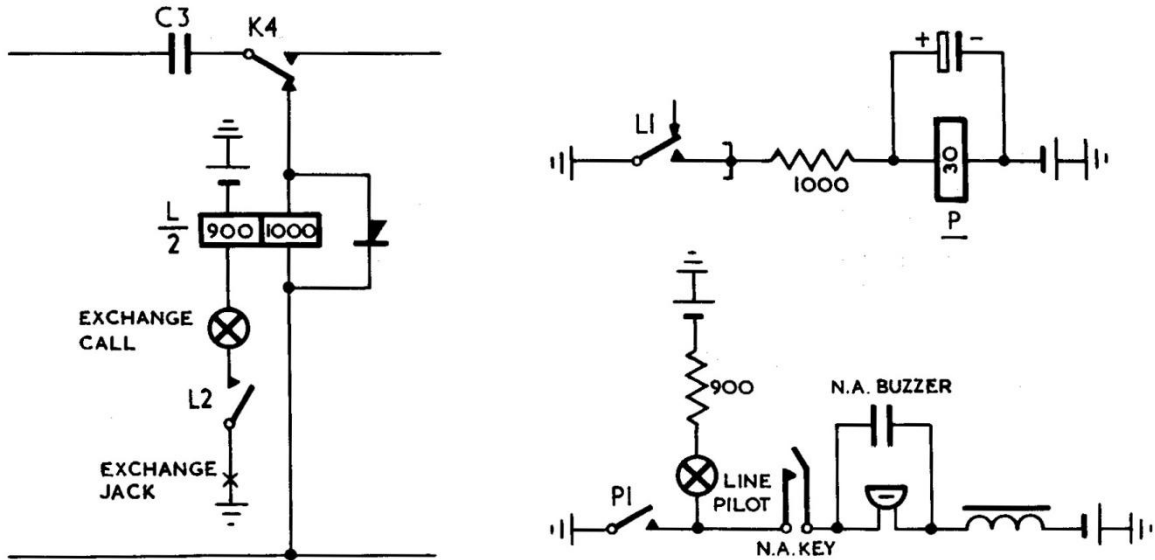

FIG. 11. INCOMING EXCHANGE CALL.
- 6.2 Incoming Exchange Call. Ringing current operates L relay in the exchange line circuit on its 1000Ω winding via the capacitor C3 and contact K4. The L relay is able to operate on ringing current as the 1000Ω winding is shunted by a rectifier. L1 contact completes a circuit to operate the pilot relay (P) and L2 provides a holding circuit for L relay via the Exchange Call lamp which glows to indicate the incoming call (Fig. 11). The pilot lamp glows to indicate a call waiting to be answered, and if the N.A. key is operated an audible signal is given by the N.A. buzzer.